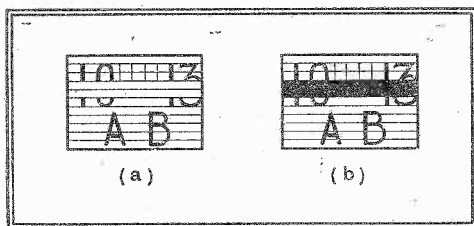

Fig. 2.—What the navigating officer sees.
Fig. 2.—Widths given in the last column of the table are plotted (above) at right-angles to the axis at the equal intervals as required by column (1). The calculated width of mouth is then fitted in to determine the total length along the axis. Before marking out the wood for cutting, the calculated widths must be replotted (below) with new spacings along the axis taken from the side of the original curve. In this way the calculated axial length will be maintained when the side is bent.
ing them the new intervals along the axis as in Fig. 2(b). The widths at each station across the axis are, of course, the same as those of the equivalent station in Fig. 2(a).
The point at which the development of the flare may be stopped is also found graphically by fitting in the previously calculated minimum flare width (1.88ft.) at right-angles to the axis until it just touches the curve on both sides. In our particular example this position is reached in Fig. 2(a) at a distance along the axis of 1.6ft. (19.2 inches) from the throat. This represents the length of the finished horn; the length of side before bending will be slightly greater and will be given by the replotted curve of Fig. 2(b).
Instead of superposing the picture of the compass scale on the rotating beam, it can be radiated from a non-directional aerial with two or three scanning lines omitted, so that the received picture appears as shown in Fig. 2(a). During the "blank" interval, radiation from the non-directional aerial is cut off, and the rotating frame aerial is automatically brought into action to radiate a beam which swings progressively forward. As it cuts across the receiver the blank space is filled up with a black bar as shown in Fig. 2(b). The bearing line is that which bisects the length of the black bar when this appears most intense.